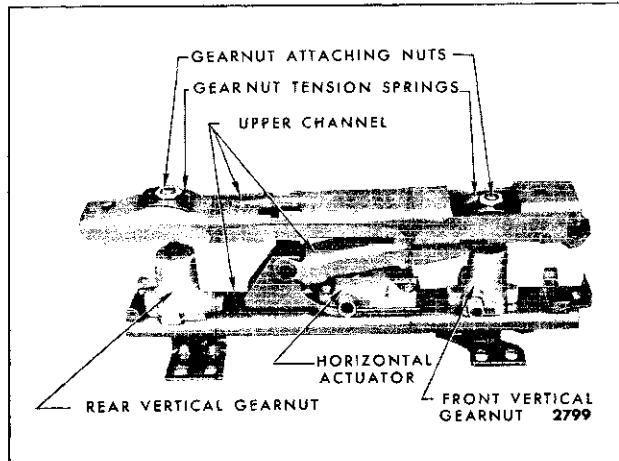

Fig. 15-14—Six-Way Seat Adjuster - "B, C & E" Styles
4. At top of adjuster, remove front and rear vertical gearnut attaching nuts and tension springs (Fig. 15-14).
5. Lift front of adjuster upper channel upward; then, remove screws securing horizontal actuator to adjuster upper channel assembly (Fig. 15-14) and remove actuator from adjuster.
7. If front vertical gearnut is being replaced with a new part, transfer gearnut washer to new gearnut assembly (Fig. 15-14).
5. At top of adjuster, remove both vertical gear-nut attaching nuts and tension springs (Fig. 15-14).
7. If rear vertical gearnut is being replaced with a new part, transfer gearnut washer to new gearnut assembly (Fig. 15-14).
4. At top of adjuster, remove both vertical gear-nut attaching nuts and tension springs (Fig. 15-14). Lift front of adjuster upper channel upward; then, remove horizontal actuator attaching screws (Fig. 15-14) and remove horizontal actuator from adjuster.